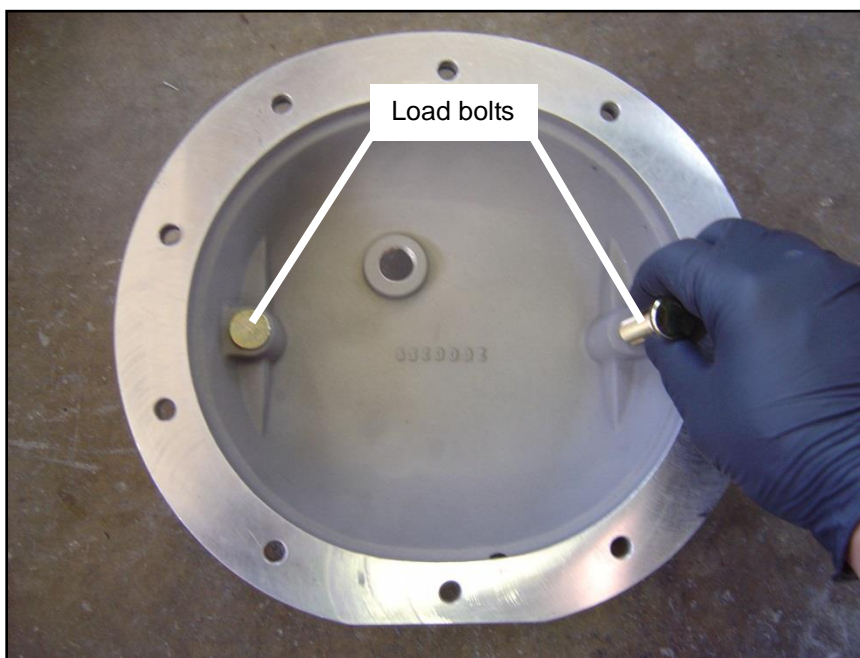

Figure 3
**STEP 10.** Install the supplied load bolts in each boss from the inside of the **B&M Cast Aluminum Rear End Cover** until they bottom out (See Figure 3 & 4).